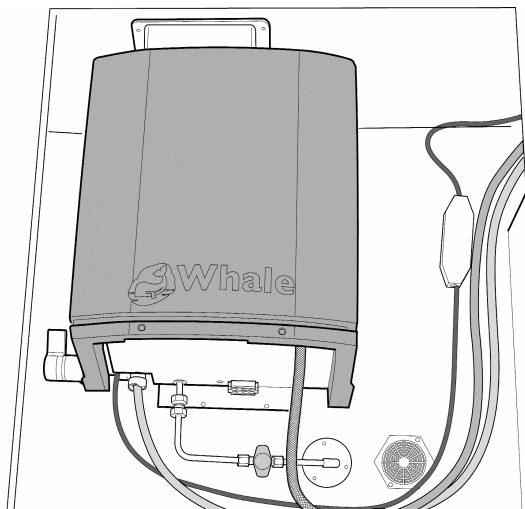

Fig. 27 Typical Vehicle Manufacturer's Installation
Step 14 Completed installation (see Figs. 27 & 28)